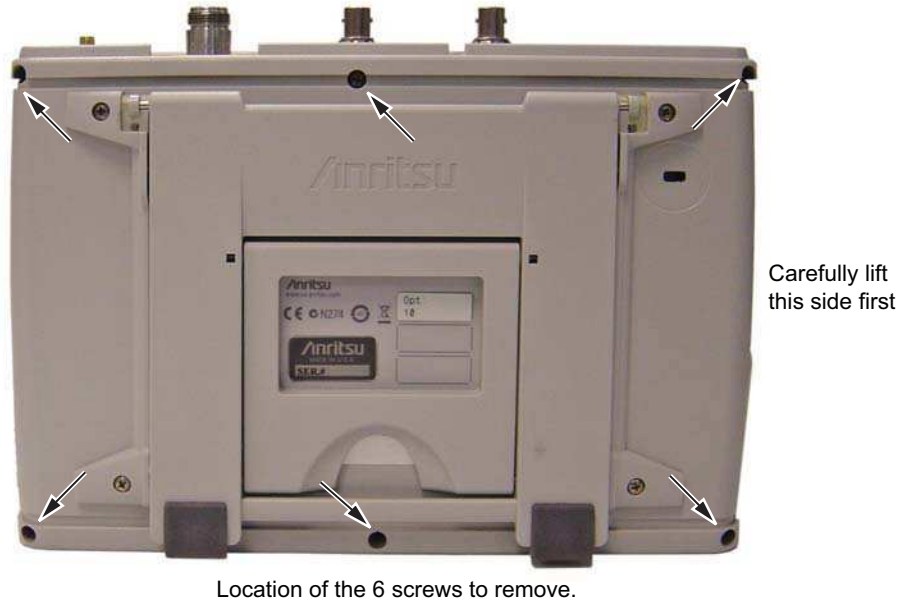

Figure 7-2. Remove the Four Screws
4. Use a Phillips screwdriver to remove the six screws securing the two halves of the Site Master case together (Figure 7-2).